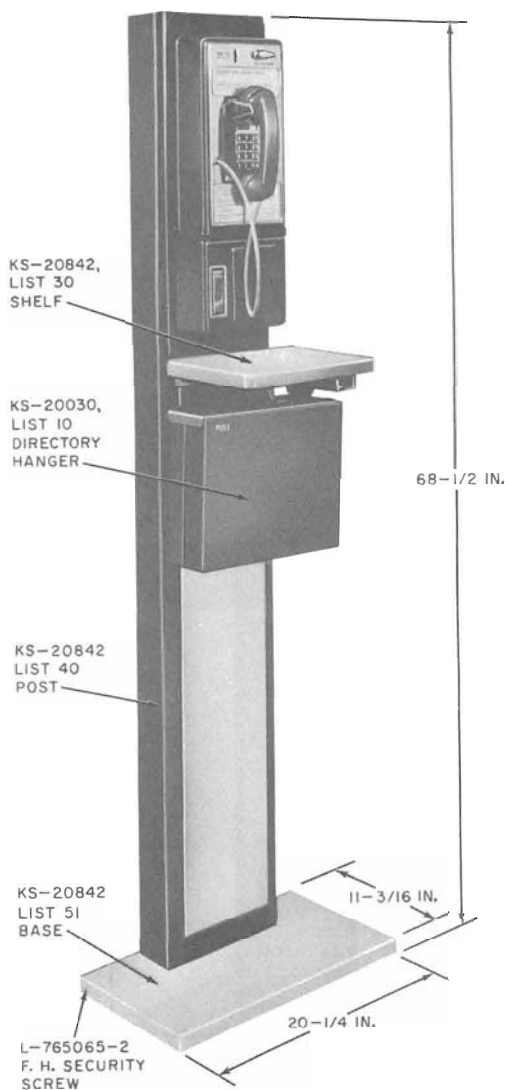

Fig. 2—KS-20842, List 2 Telephone Mounting
**2.11** *List 51 short base* (Fig. 2) mounts the post assembly flush with the back of the base to permit a next-to-wall or back-to-back pedestal installation. The base is 20 inches long, 11 inches wide, 7/8-inch thick, and weighs approximately 55 pounds. Eight mounting holes and only one cover are provided with the short base.
**2.15** A List 30 shelf assembly (Fig. 2) is to be used indoors only and when the List 31 housing is not provided. The shelf mounts on front of post below the recessed telephone. Made of stainless steel, the shelf is approximately 13 inches wide and extends 8-3/4 inches from post.
**2.23** A directory hanger may be used with each telephone mounting. The KS-20842, List 30 shelf will accept a KS-20030, List 9 directory hanger (Fig. 2) and the KS-20842, List 31 housing will accept a KS-20030, List 10 directory hanger. Each hanger must be ordered separately.